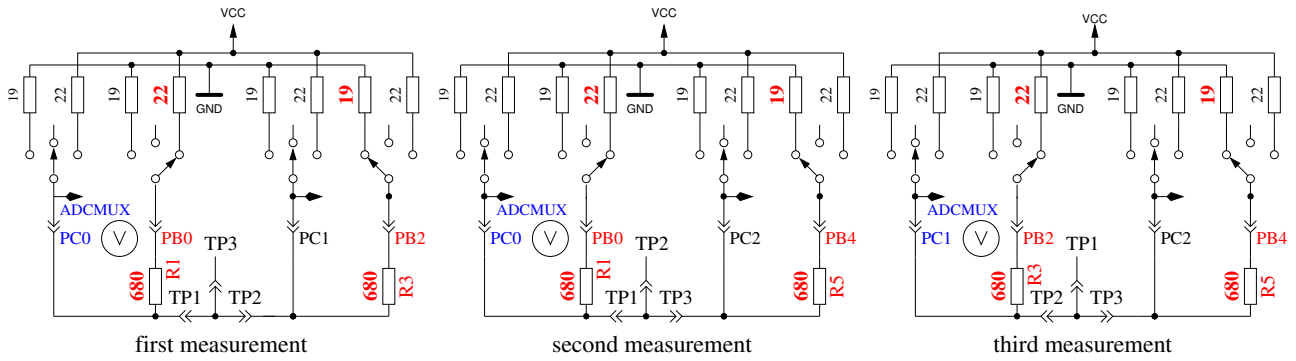

Figure 5.65. Comparison of 680Ω resistors
2. **Comparing of the  $680\Omega$  resistors.** In row 1 the cryptic text “+RL- 12 13 23” is shown. Meaning of this is as follows: The RL is the short form of Resistor Low meaning the  $680\Omega$  resistors. The 12 stand for: resistor at pin 1 is connected to VCC (+) and resistor at pin 2 is connected to GND (-). The result of this measurement is displayed in row 2 at the first place as difference to the theoretical value. In row 1 follows now a “13” which means, that the first connection of measurement 1 is still connected with  $680\Omega$  to VCC but that the resistor of pin 3 is connected to GND. The result is displayed in the middle place of row 2 as difference to the theoretical value. The last measurement of this test “23.” means that now the resistor at pin 2 is connected to VCC (+) and the resistor of pin 3 is connected to GND. The result of measurement is displayed at the last place of LCR row 2 as difference to the theoretical value. Please remember, that the resolution of the ADC is about  $4.88mV$ ! The measurement situation is also shown in figure 5.65. The theoretical value with respect to the internal resistance of the pins should be: